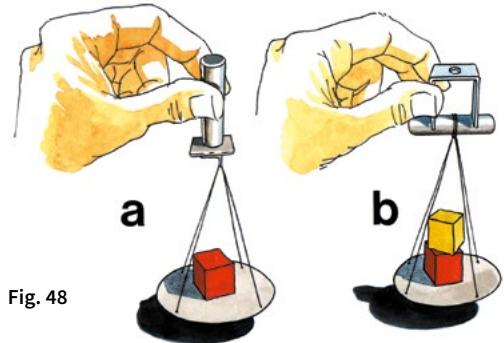

Fig. 48
1. In addition to a magnet you will need an armature as well as a cardboard cup, made according to fig. 48 and tied with a piece of thin thread to the armature. Lift the armature and the cup by means of a magnet then keep loading the cup with various articles from the set as long as the magnet is strong enough to attract the burdened armature. Remember the maximal burden lifted by the magnet. Instead, the cup can be loaded by weights, which will enable you to express the lifting capacity of the magnet more precisely.
2. According to fig. 48, combine the magnet with a core sleeve from the set and burden it with the armature as well as the cardboard cup, as described in the preceding experiment. What is the strength of the magnet now? Although the magnet is the same, its strength has increased. Now both magnetic poles are involved, whereas in the former experiment only one was.